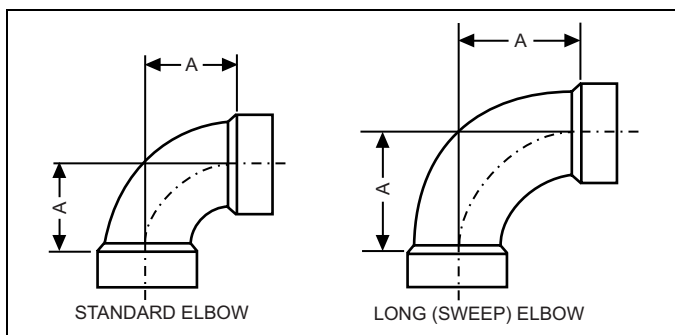

Figure 29: Dimensions
- If venting with PVC, drain, waste, and vent (DWV) elbows with a long radius (sweep) are recommended. Standard DWV elbows may be used, but since they have a longer equivalent length, they will reduce the total length of pipe that will be allowed. If venting with CPVC, long radius (sweep) elbows such as Spears Manufacturing LabWaste(R) series must be used. Short radius (plumbing or pressure) elbows are not allowed for venting. The standard dimensions of the acceptable elbows are shown in Figure 29.
Elbow	"A" Dimension (Illustrated in Figure 29)